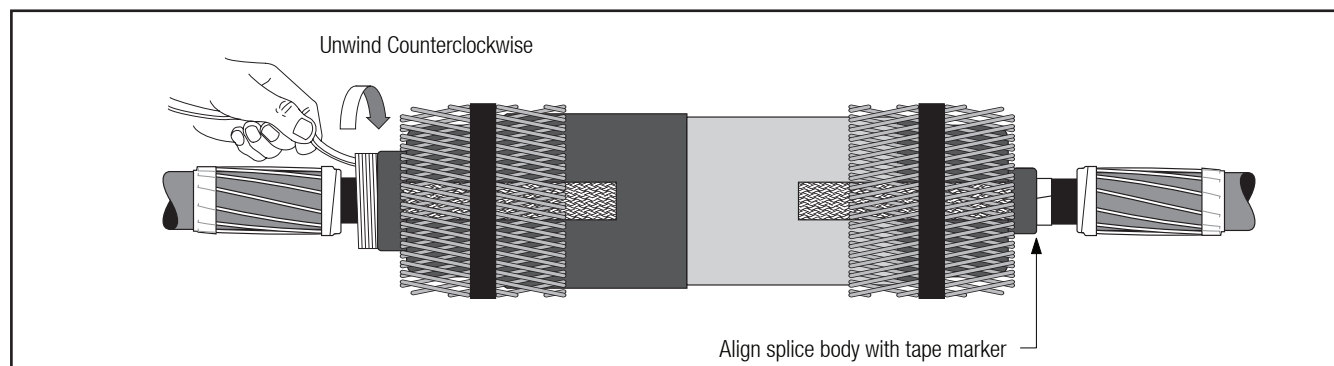

Figure 15
- 4.5 Position the splice body over connector area, aligning end of the splice body (not the core) at the center of the tape marker. **Slowly** start to remove the splice core by pulling and unwinding the loose core end counterclockwise, allowing only 1/4" (6 mm) of the splice to shrink onto the tape marker. Carefully slide the splice body off the tape marker by pulling and twisting until the entire tape marker is exposed. Continue removing the core to complete the splice body installation (*Figure 15*).